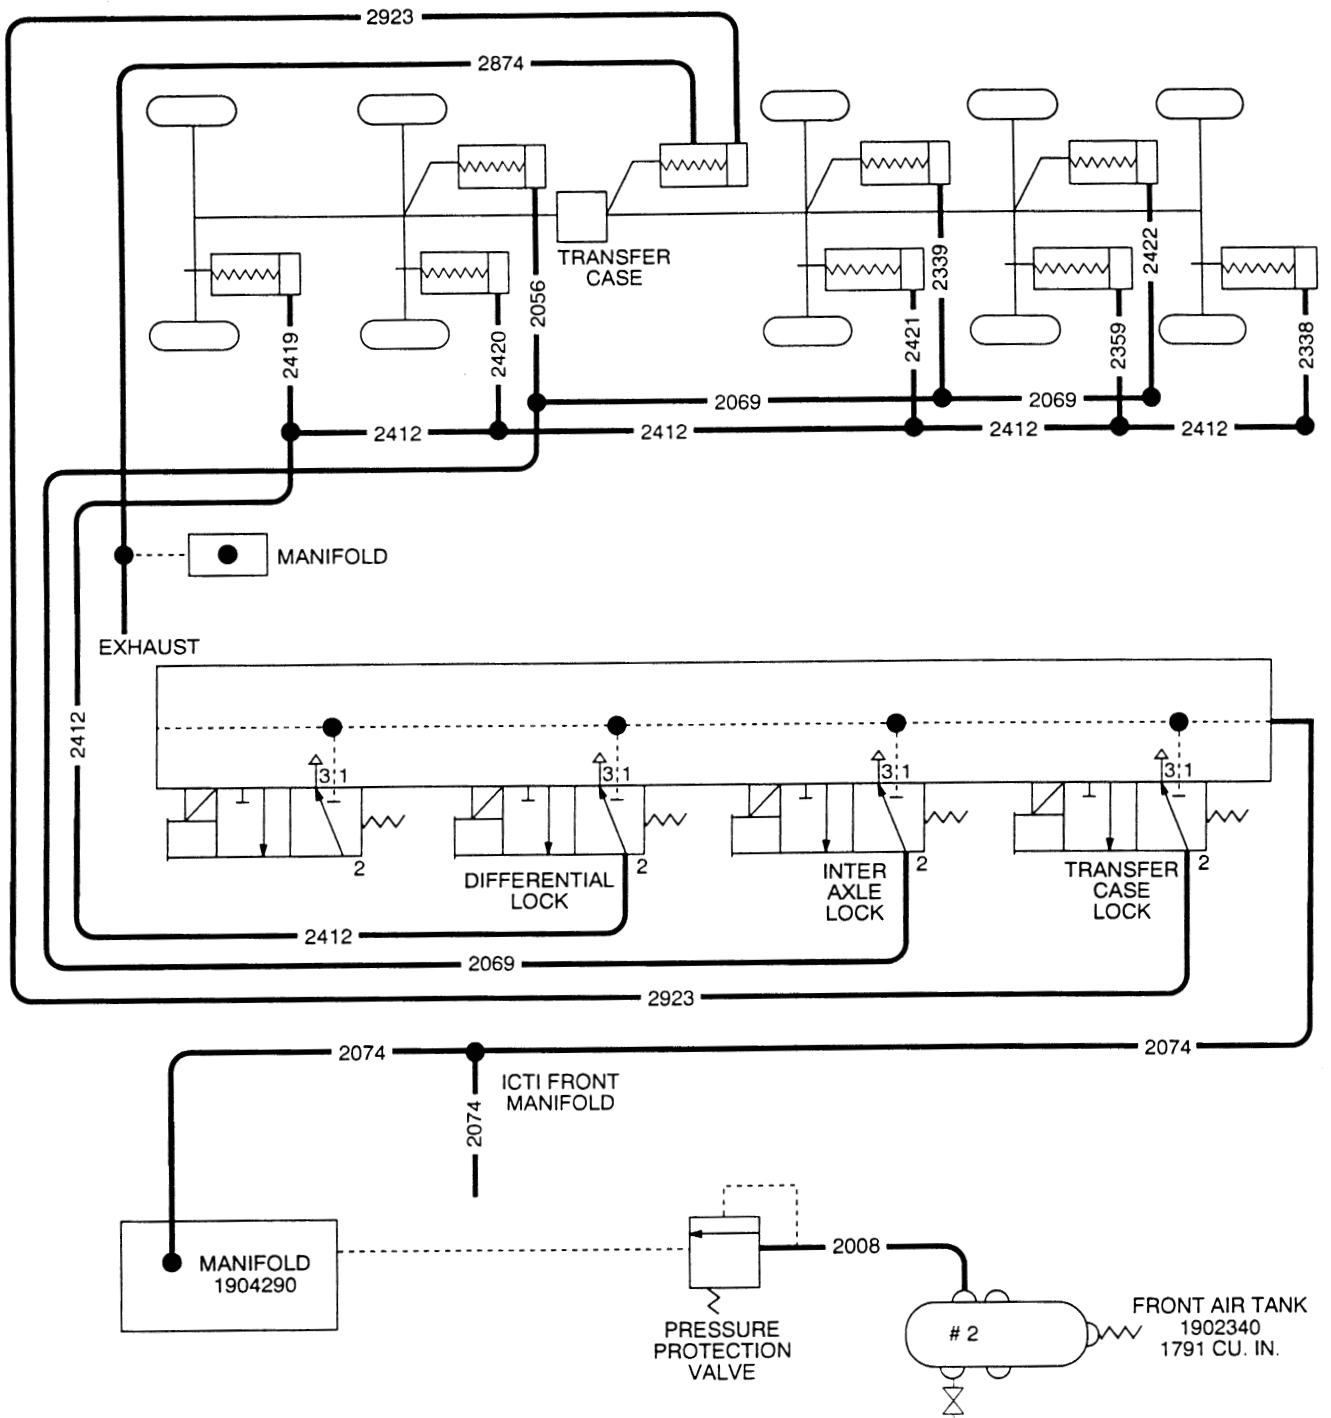

Figure 2-73. Interaxle/Differential Lockup Air Schematic
(1) Set the CTIS rotary selector switch to EMERGENCY (TM 9-2320-364-10).
(2) Set transmission selector to Neutral (N).
(3) Shift transfer case shift lever to Low (L).
(4) Start engine and build air pressure to 125 ± 4 psi (861 ± 28 kPa).
(5) Check differential lockup cylinder air lines and fittings for damage, crimps and leaks (Para 12-36 and schematic Fig 2-73). <ul style="list-style-type: none"> (a) If damage, crimps or leaks are present, tighten loose connections, turn OFF ENGINE switch and replace air lines as necessary (Para 12-36 and schematic Fig 2-73). (b) If no damage, crimps or leaks are present, turn OFF ENGINE switch and go to Step 2 of this Fault.